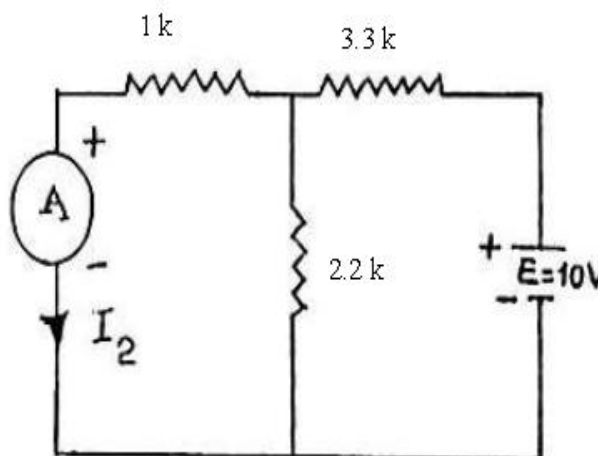

Figure.2
4. The circuit connections are changed as per the Figure 2, change the source to load end and replace the source with internal resistance.